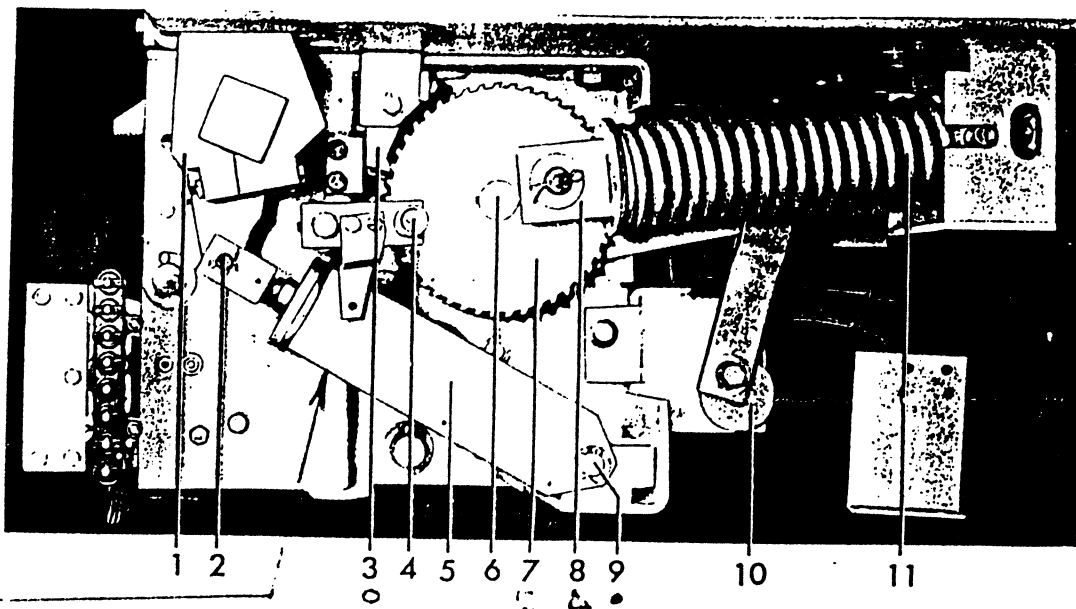

Fig. 5 (8037377) Left Side View ML-13A Operating Mechanism
A positive interlock (4) Figure 5 and interlock switch (2) Figure 3, are provided between the breaker and metal-clad unit and work with the rack screw shutter to prevent insertion or removal of the breaker in the unit while in a closed position and to prevent a closing operation when the breaker is not in either the fully connected or test position. To insure that this interlock will function during manual, as well as during electrical operation of the equipment, both mechanical and electrical blocking is provided. If for any reason the closing springs should be discharged against the positive interlock the mechanism will be jammed and be inoperable. The mechanism can be released and returned to the reset position by pushing in on the trip lever (1) Figure 2. It may require more than normal force to release the interlock.
The pawl advances the ratchet wheel (7) Figure 5 a few degrees each stroke where it is held in position by the latching pawls (3). When the ratchet wheel has been rotated approximately 180 degrees the closing springs (11) will be fully compressed. As the ratchet wheel continues to rotate, the spring load will shift over center and attempt to discharge. After a few degrees of rotation, the closing roller (7) Figure 3, will engage the closing latch (8) and the compressed springs will be held by the latch until a closing operation is required. During the last few degrees of the ratchet wheel rotation the power switches (9) are opened and the driving pawl is raised from the ratchet wheel surface. This allows the motor and driving mechanism to coast to a natural stop expending all residual energy.